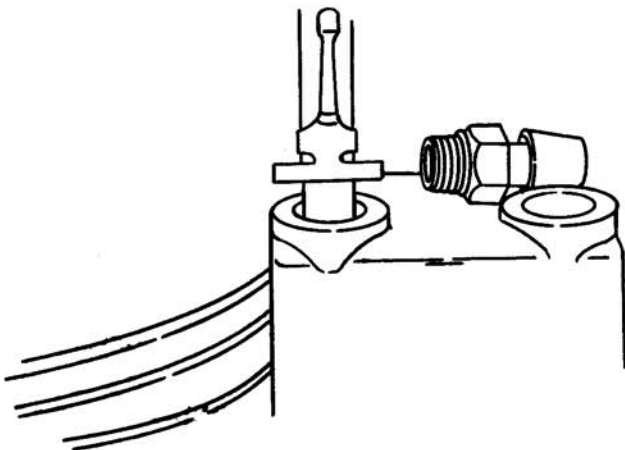

Figure 6-44. Checking Oil Level
7. The oil should be between 1.75 to 2.0 inches on 310-0500 and 1.0 to 1.25 inches on a 310-0750. See Figure 6-44.